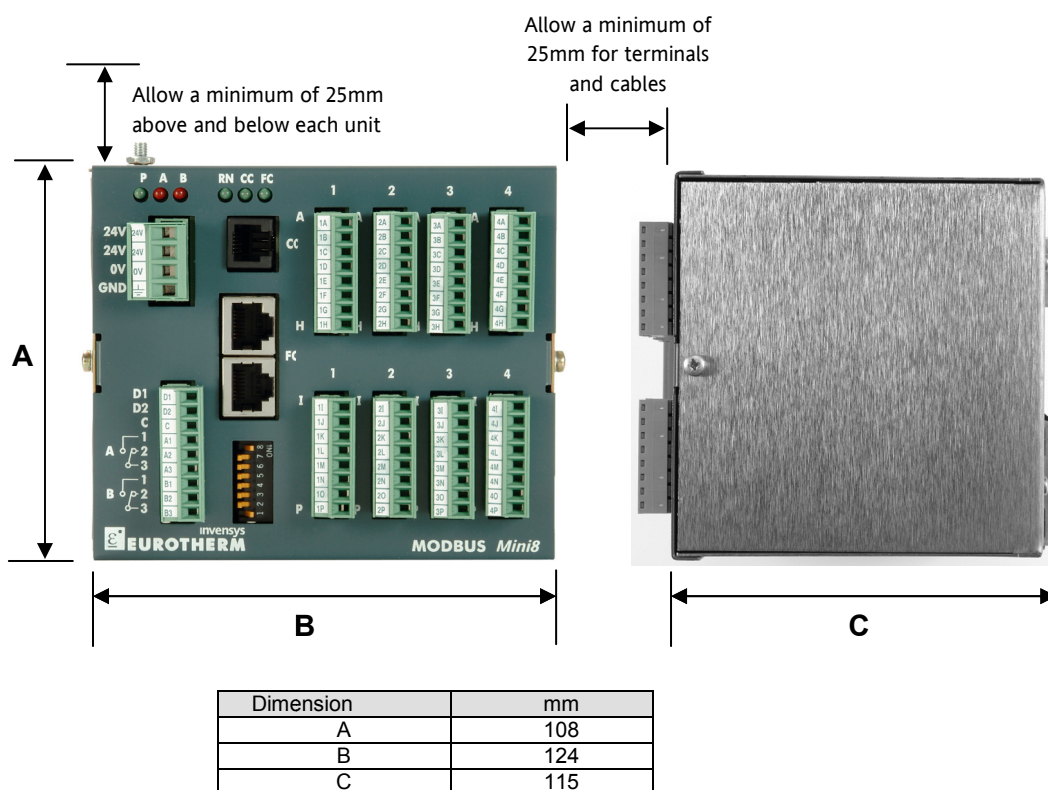

Figure 1-1: Mini8 Controller Dimensions
2. Mount the DIN Rail horizontally as indicated in Figure 1.1. The Mini8 controller is NOT designed to be mounted in other orientations.